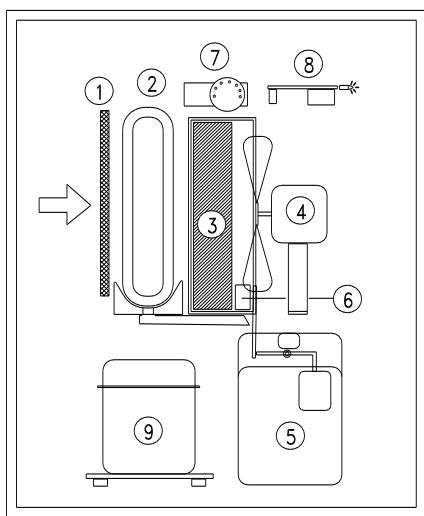

Fig. 1
With reference to the drawing (fig. 1), the air is drawn in through the back side of the dehumidifier, then it passes through the **filter** (1), through the aluminium refrigerated coil or **evaporator** (2), again through the heat- exchanger or **condenser** (3). Finally, the **motor fan** (4) expels the air back into the room through the front grilles panel: The condensed water is collected in the **tank** (5). A **micro-switch** (6) stops the machine when the water in the tank reaches the correct level by raising the water float lever. The **humidistat** (7) starts the functioning of the dehumidifier when the humidity is higher than the preset level. An **electronic circuit** (8) controls the defrosting and prevents the **compressor** (9) repeated starts within too short a time by delaying each new start.